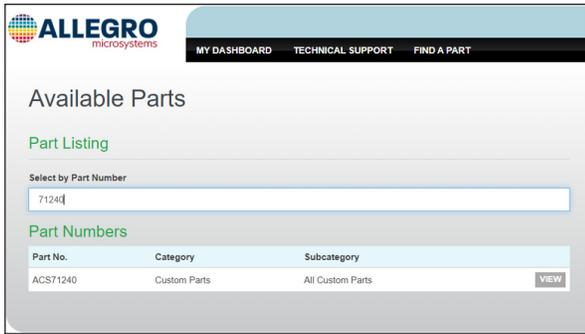

Figure 5: “View” next to “ACS71240” search result
6. Click “View” next to the ACS71240 search result as shown highlighted in Figure 5.